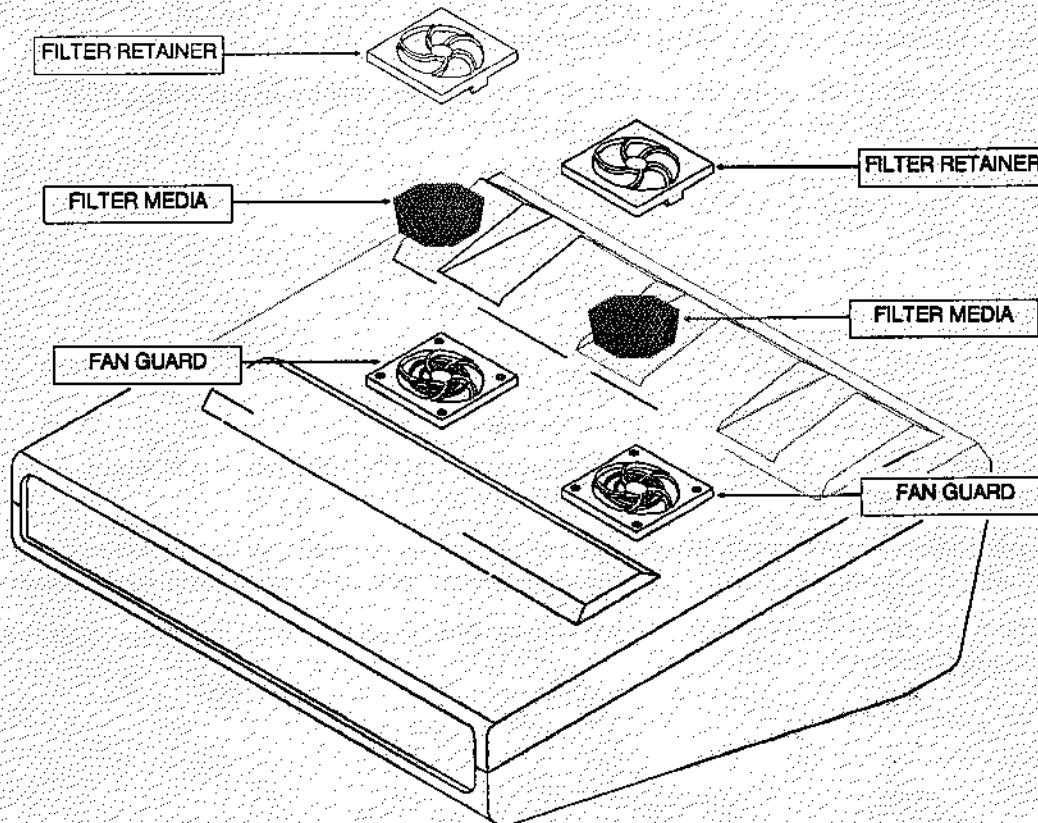

FIGURE 11-2.
- 2. Remove the filter media from between the retainer and the guard. Refer to figure 11-2.